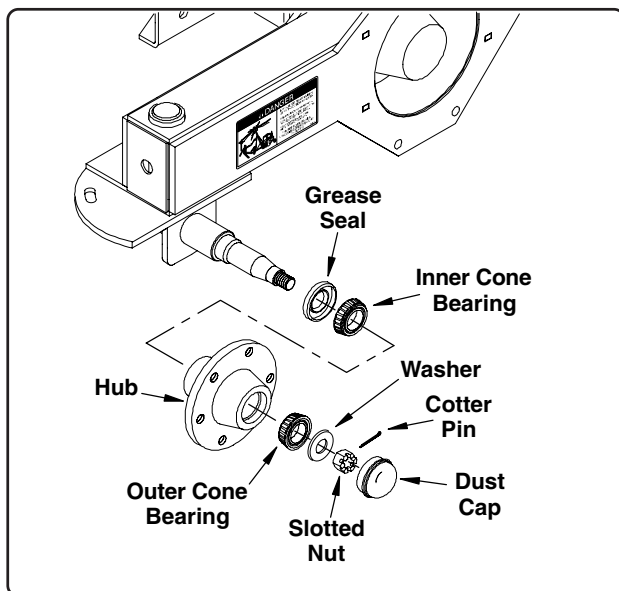

Fig. 2
2. Place the inner bearing into the hub. Press the grease seal into the hub and carefully install the hub onto the spindle of the swivel weldment (See Fig. 2).